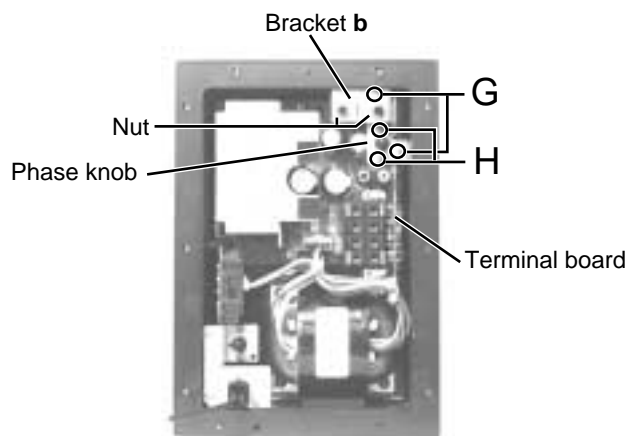

Fig.11
■ Removing the terminal board (See Fig.11 and 12)